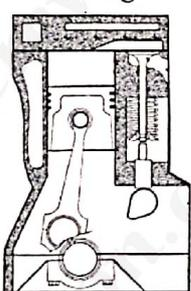

Figure 1
4. The engine shown in figure 1 below has